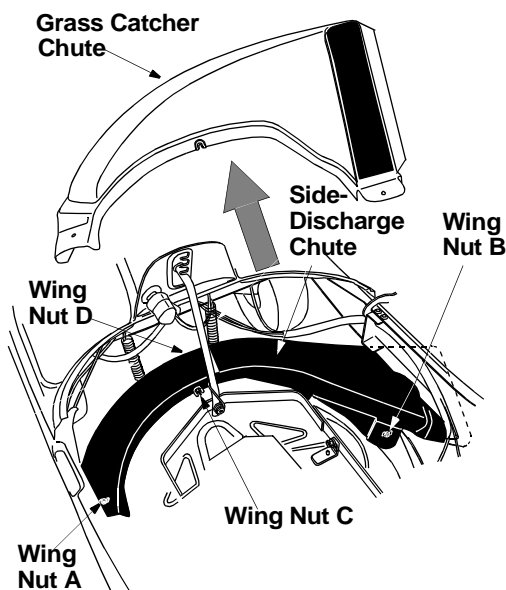

Figure 4
- Remove the two wing nuts (A and B in Figure 4 ) from two ends of the grasscatcher chute.
- Loosen the two wing nuts (C and D in Figure 4 ) in the middle of the chute. Do not remove. All four wing nuts (A, B, C, and D) hold the chute to the deck frame.